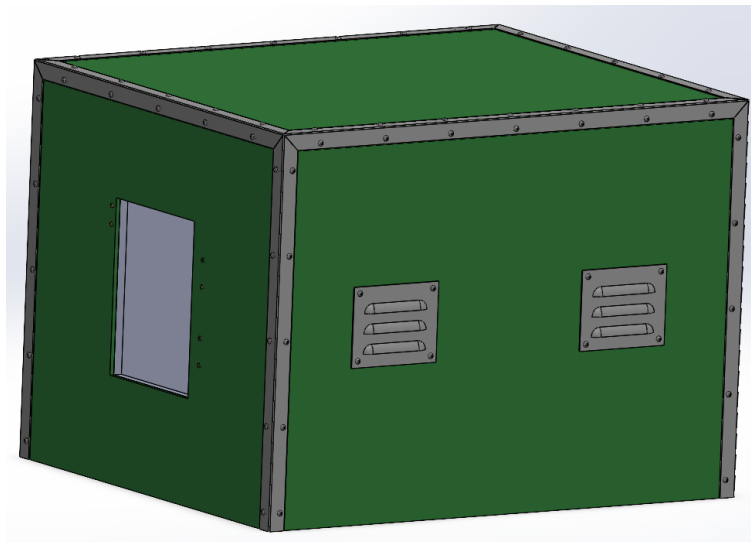

Fig. 16. Louvers installed on the left acrylic.
1. Screw the louvers onto the left acrylic, see Fig. 16.